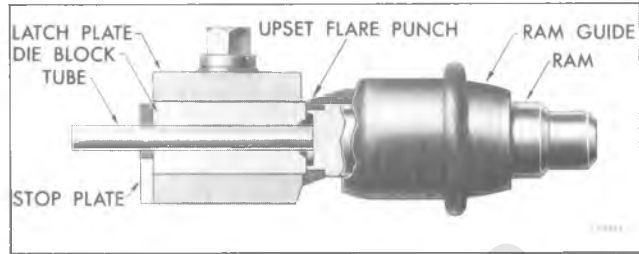

Figure 4—Flaring Operation (Positioning Tubing)
4. Slip the punch into the tool body with gauge end toward the die blocks, install ram and tap lightly until punch meets the die blocks and they are forced securely against the stop plate (fig. 4).